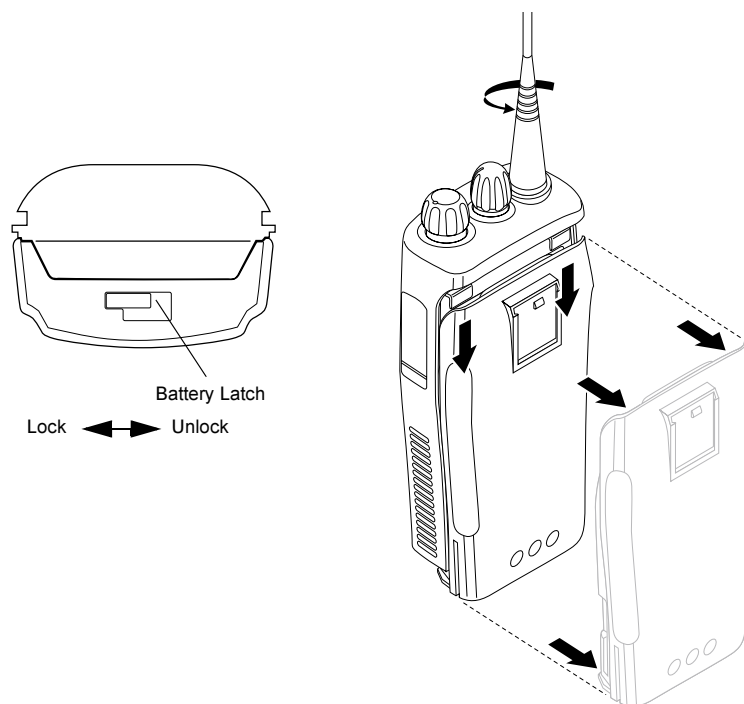

Figure 2-1 Battery Removal
2. Remove the battery (Figure 2-1) :